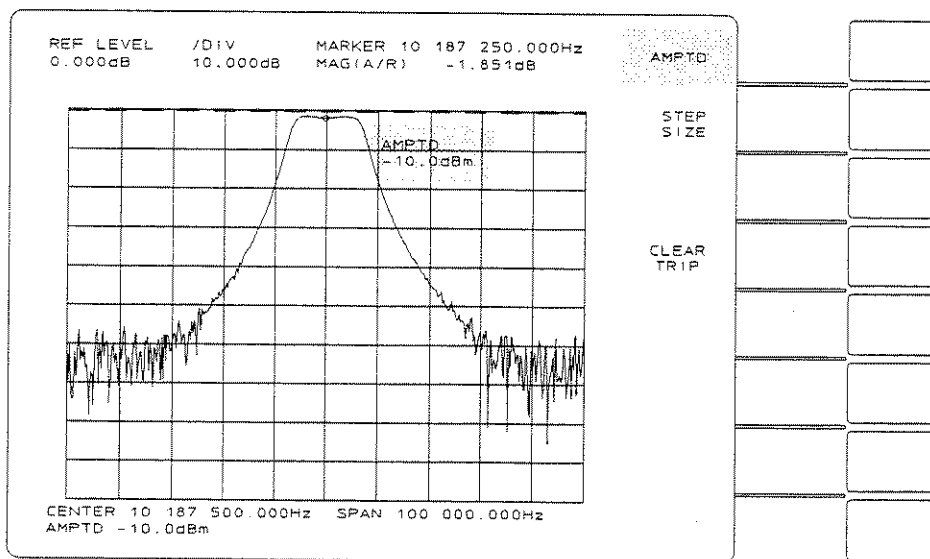
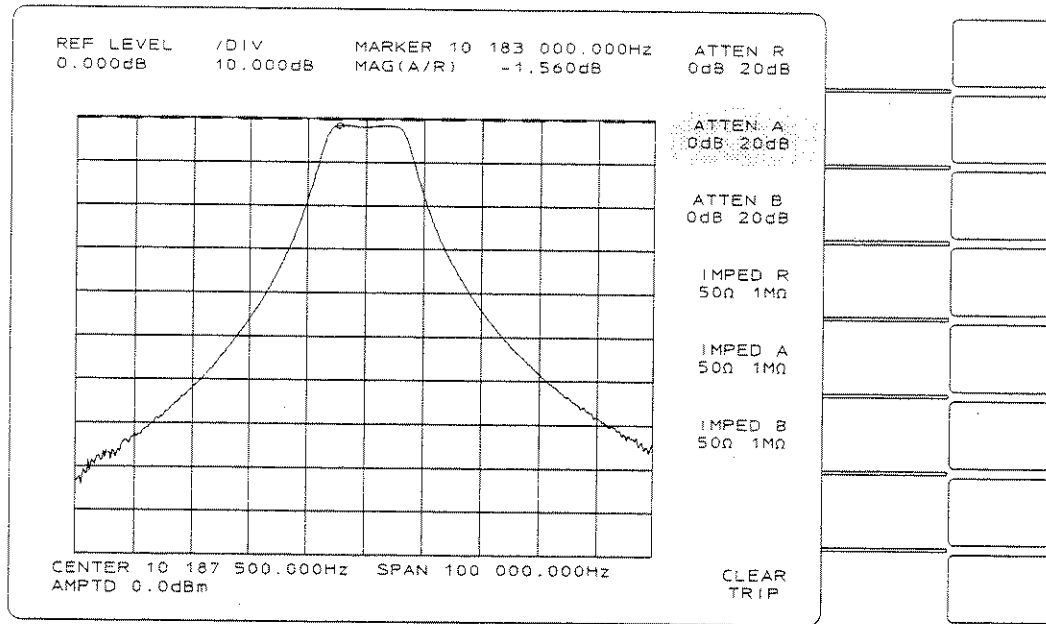

Figure 2-14. The Source Amplitude Menu
Figure 2-15. Optimizing Dynamic Range
7. The noise level of figure 2-14 will now be reduced by increasing the source amplitude and decreasing the attenuation applied to input A. Press **[AMPTD]** in the SOURCE section.
The noise-reduced trace is shown in figure 2-15. Compare it with figure 2-14.